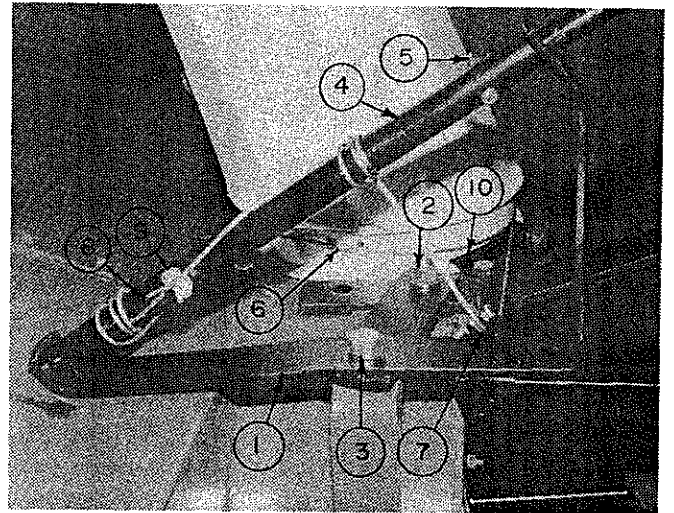

FIGURE 3
- a) Install the lower hitch tubes (3 & 4) in the square tubes on the blower, placing the flat plates that are welded to the square tubes towards the inside (5). Two angle shims have been provided to insure a precise fit between the tubes where required (6).
- b) Bolt the tubes in the innermost position, using two  $\frac{5}{8}$ " x  $3 \frac{1}{2}$ " bolts, lockwashers and nuts (7). On larger tractors where the drive shaft angle is greater than  $30^{\circ}$ , bolt the tubes in the most extended position. Tighten securely.
- d) Install the upper hitch (8) on top of the blower housing in the innermost position using the hole closest to the tractor. Place the rotation bracket (fig. 3, item 1) on top of the upper hitch and secure with a  $\frac{5}{8}$ " x  $1 \frac{3}{4}$ " bolt, lockwasher and nut, with the nut on top (fig. 3, item 2). Tighten securely. (NOTE: If the lower hitch tubes are bolted in the extended position, the upper hitch must also be bolted in the extended position).
- e) Attach the two hitch brackets (9) to the upper hitch through the middle holes using a  $\frac{5}{8}$ " x 4" bolt, lockwasher and nut (10). Secure loosely. Fasten the hitch brackets inside the flat plates that are welded to the lower hitch tubes, with the Category I pins (11) facing outwards. Be sure that the linch pin holes are at  $90^{\circ}$  to the ground. Tighten securely the upper hitch bolt (10) and the Category I pins.
- f) Attach the PTO storage chain to the small hole in each hitch bracket (12) using the two S-hooks provided.
- b) Install the three retaining plates (fig. 3, item 10) using six  $\frac{1}{2}$ " x 1" bolts, lockwashers and nuts.
## STEP 5: CHUTE ROTATION ASSEMBLY (Figure 3)
1. Install mounting plate (1) on the left hand side of the chute under the blower plate. (Right and left are determined by the direction the blower will travel when in use).
2. Place the chute retaining plate (fig. 3, item 10) on top of the blower plate, with 2 bushings (3) on top of the retaining plates.
3. Place chain cover (2) on top of bushings (3) and attach the assembly with two  $\frac{1}{2}$ " x  $3\frac{1}{2}$ " bolts, lockwashers and nuts (16), and one  $\frac{3}{8}$ " x  $1\frac{1}{4}$ " bolt, lockwasher and nut (23). Do not tighten.
4. Install chain (9) and attach with one connecting link.
5. Attach chain to chute through the 2 holes in the chute ring at the base of the chute with 2 socket head cap screws, flat washers and jam nuts (20).
6. Adjust the chain by sliding the motor support (1) leaving approximately  $\frac{3}{8}$ " deflection in the chain.
8. Install the motor (10) under the motor support (1) and secure with a  $\frac{5}{16}$ " x 1" bolt and lockwasher (14).
9. Install the switch (11) in an appropriate place, as close as possible to the ignition switch.